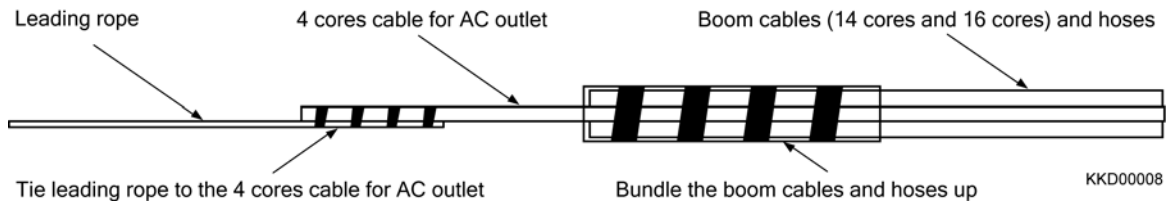

Fig. 2-33
- 12) Bundle the boom cables and hoses up, and then tie the leading rope to the 4 cores cable for AC outlet (Fig. 2-33)